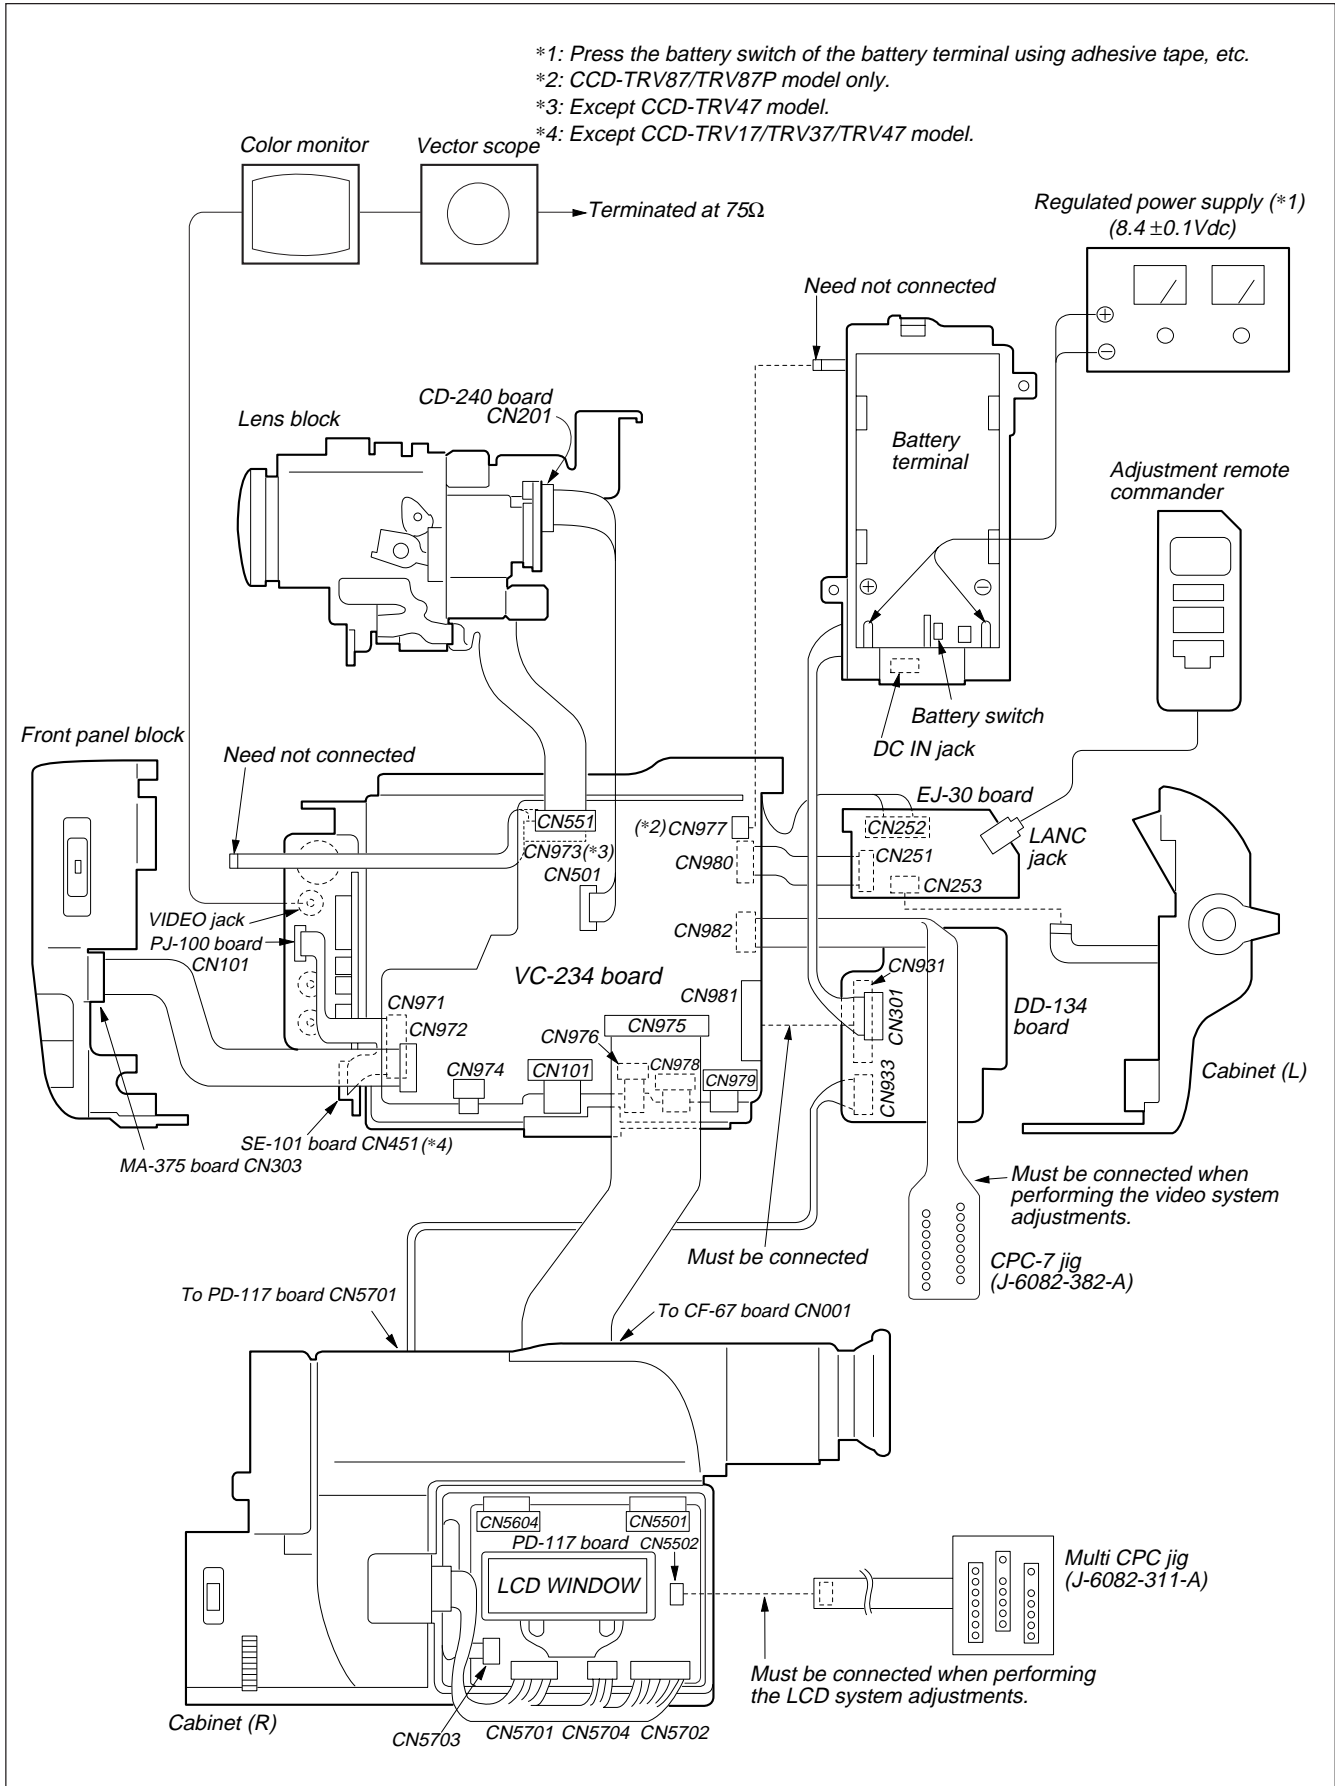

Fig. 5-1-3.
1) Connect the equipment for adjustments according to Fig. 5-1-3, 5-1-4.